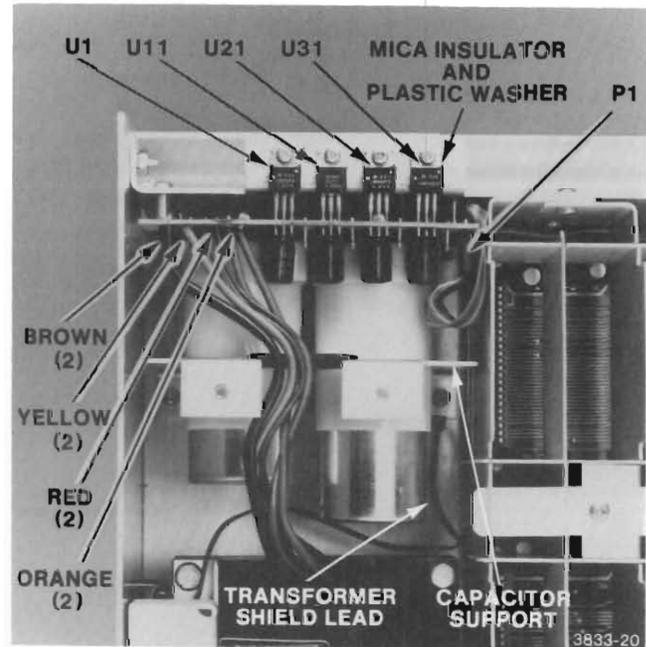

Figure 4-6. Replacing the Power Supply Board.
Refer to Figure 4-6.
9. Solder the remaining transformer leads to the circuit board. They connect in the same order as they come out of the transformer (see Figure 4-6).